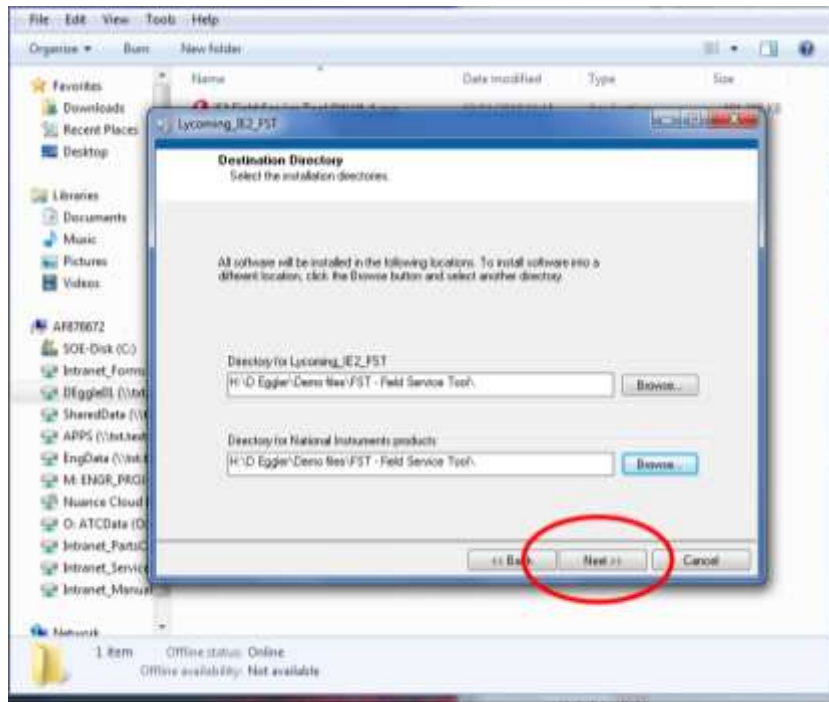

Figure C-15
- 13. Choose the folder location for the software in the Destination Directory (Figure C-15), then click the **Next** button.